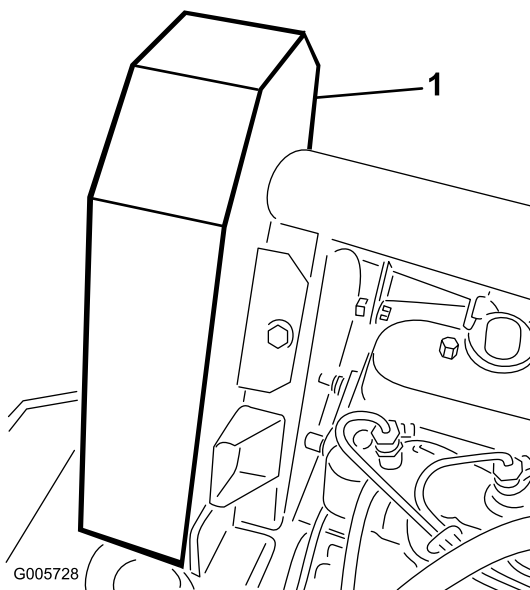

Figure 66
2. Remove capscrews (5) securing fan belt guard and remove guard (Figure 66).
5. Install fan belt guard and secure with capscrews (Figure 66). Close and latch hood.
4. Install fan belt guard and secure with capscrews (Figure 66). Close and latch hood.